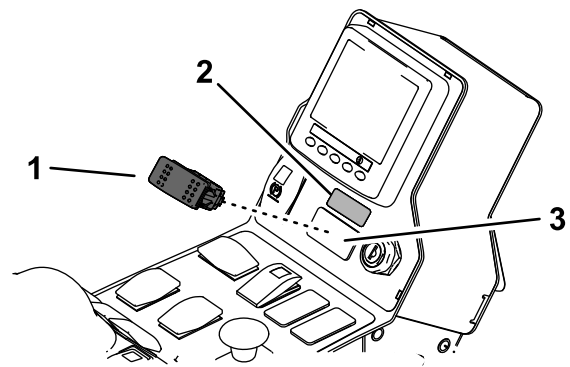

Figure 4
3. Remove the plug from the control panel and install the switch (Figure 4).
4. Adhere the auxiliary-brake decal above the switch (Figure 4).